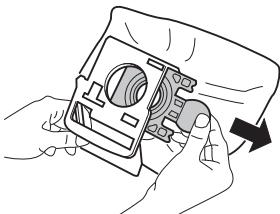

Fig. 20
5. Pull the dust filter bag out of the dust bag holder (Fig. 20).